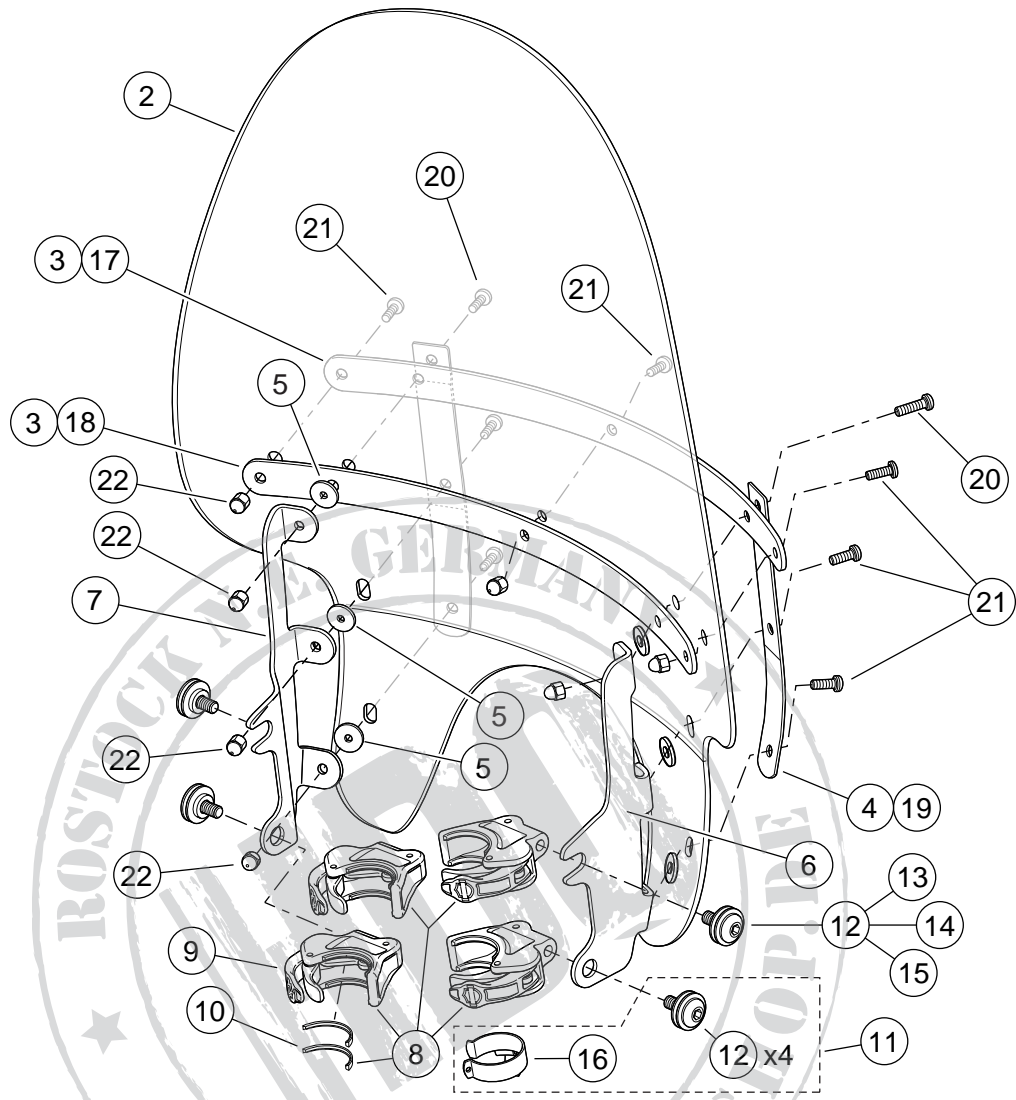

Figure 2. Service Parts, XL1200X Quick Release Windshield
See Figure 2 and Table 2.
2. See Figure 2. Remove the clamp assemblies (8) and hardware kit (11) from the packaging, and separate similar parts in preparation for assembly.
Center the windshield around the headlamp, and seat the clamps onto the fork tubes. See Figure 2. Snap the throttle cable clip (16) around the right-side fork tube, and route the throttle cables through the guide opening.